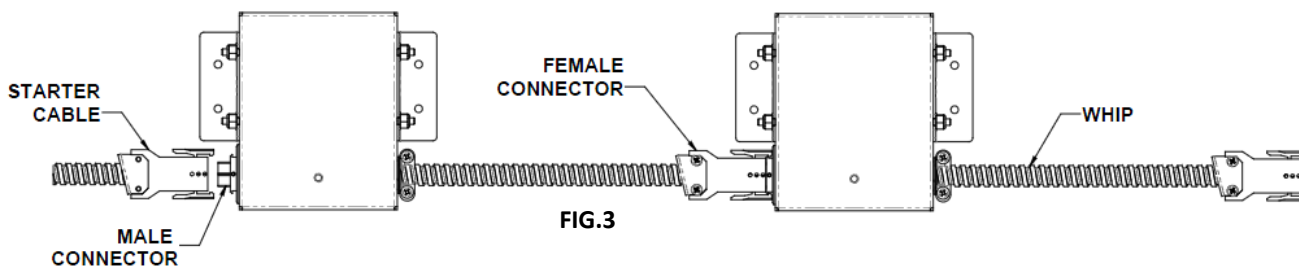
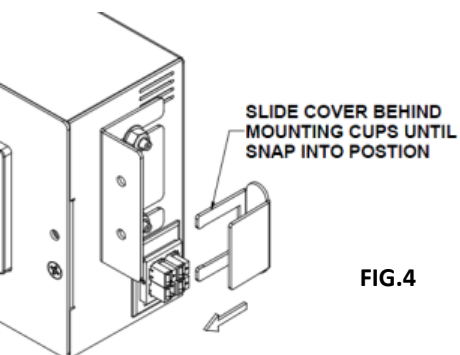

FIG. 3
FIG. 4
- 7- Beginning with the last Sto-Way in the circuit; attach the Safety cover (D) to the unused connector. (FIG.4). Connect the whip to the next Power unit (FIG.3). Repeat this for all units in the system.
- 8- At the first Sto-Way in the circuit attach the power infeed (sold separately). Energize the circuit (FIG.3).